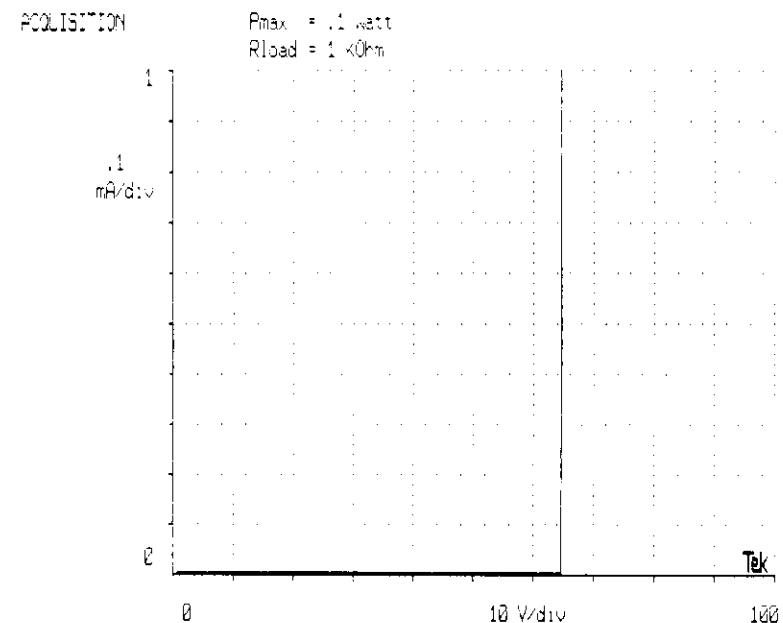

Figure 3-9: V_{ceo} Curve Curve
- Step 4. Press START and observe a curve as in Figure 3-9.